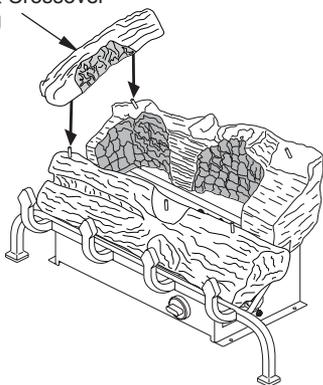

Figure 18 - Installing Left Crossover Log
- Place the left crossover log as shown in Figure 18. The bottom of the log is marked with a "L" for left. Match round peg on left side of top of rear log with round hole in bottom of left crossover. Match square peg on left side of top of front log with square hole in bottom of left crossover log.